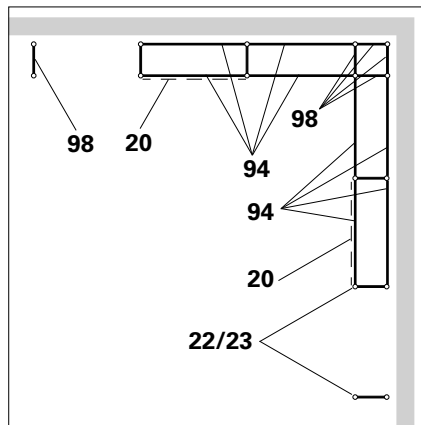

Fig. B6.07a
In this version of the assembly process, the decks on the base level are taken out again. (Fig. B6.07a)
- For the arrangement of horizontal ledgers and face braces, see Fig B6.07a + B6.07b.